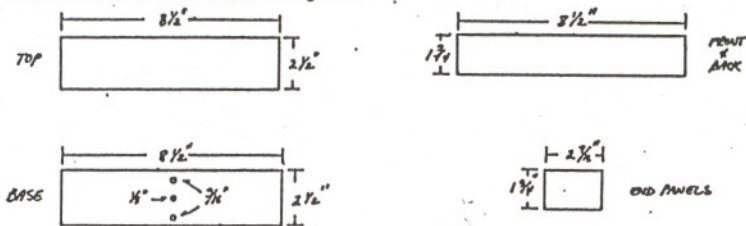

Figure 3. Loop housing panel dimensions.
The overall dimensions of the housing are 8-1/2"(L) x 1-3/4"(H) x 2-1/2"(D). The *Quantum Loop's* ferrite housing is constructed of black plexiglas; all panels are 1/8" thick with the exception of the base panel which is a sturdier 3/16" in thickness. The pieces are cut to the dimensions illustrated in Figure 3.